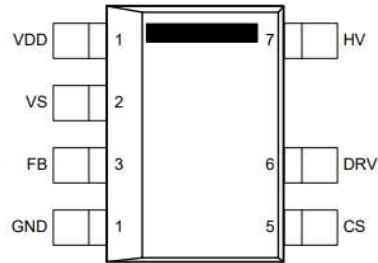
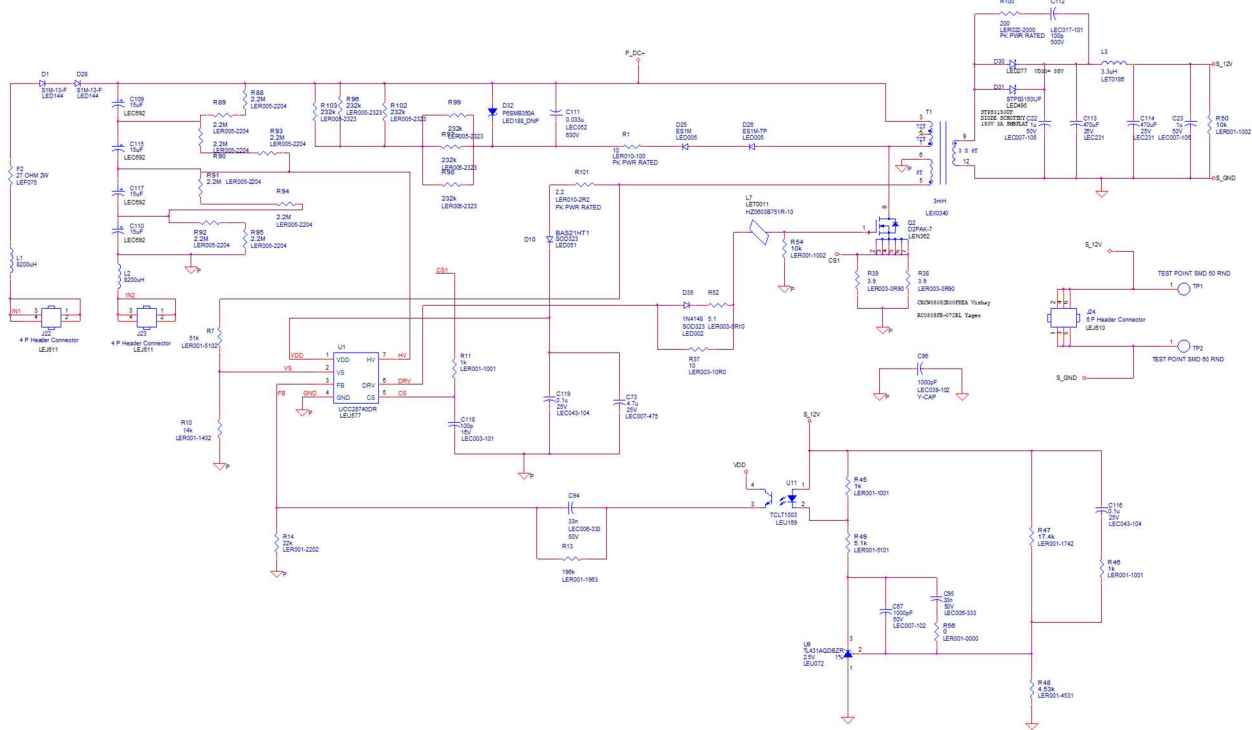

Figure 4: Cree's Flyback controller IC (P/N: UCC28740) from Texas Instruments Inc.
Figure 5: Schematic of Cree's CRD15DD17P, 15 W flyback auxiliary power supply board
A Texas Instruments Inc. flyback controller (P/N: UCC28740) (as shown in Figure 4) has been utilized in Cree's CRD15DD17P, 15 W flyback auxiliary power supply board. This controller contains less than 10 mW no load power capability, optocoupled feedback for constant voltage (CV) mode and primary side regulation for constant current (CC) mode (which enable +/- 1% voltage regulation across line and load), a 700 V start-up switch, valley switching operation for
Cree's CRD15DD17P, 15 W flyback auxiliary power supply board accepts both AC and DC input (as shown in Figure 5). If the type of input is AC, diodes D1 and D28 serve as input voltage rectifiers and DC voltage is established across the four aluminum capacitors C109, C110, C105 and C107. The inductors L1 and L2 are used for EMI suppression. A fusible resistor F2 is used to reduce the charging current and will open when there is an over current condition due to a malfunction in the circuit. The midpoint between capacitors C115 and C117 has half the rectified DC input voltage, so the maximum voltage that controller U1 will experience at its HV pin (as shown in Figure 4) would be 600 VDC for 1200 VDC input, which is below the 700 V rating. The voltage at this midpoint provides an initial charging current via controller U1's built-in high-voltage start-up switch until VDD pin (as shown in Figure 4) reaches the turn-on voltage of controller U1. Once controller U1 starts switching the primary side's main switch, voltage VDD will be maintained via auxiliary winding (5-6) of the flyback transformer, and the internal switch that provides start-up current in controller U1 will be turned off to reduce power loss.
If the type of input is DC (i.e., for applications with less than 1000 VDC), only two snubber resistors, R96 and R97 (as shown in Figure 5), can be used on Cree's CRD15DD17P, 15 W flyback auxiliary power supply board to improve efficiency. To power up Cree's CRD15DD17P, 15 W flyback auxiliary power supply board with 300 VDC – 1000 VDC input, replace R90, R91, R93 and R94 (as shown in Figure 5) with 0 $\Omega$  resistors to short capacitors C115 and C117 (as shown in Figure 5).